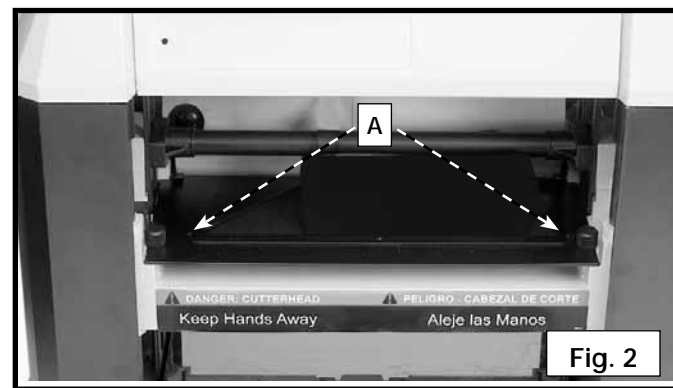

Fig. 2
1. Remove the two screws (A) Fig. 2 that secure the cutterhead guard.
2. Place the dust connector in the slots provided and replace the cutterhead guard screws (A) Fig. 2.